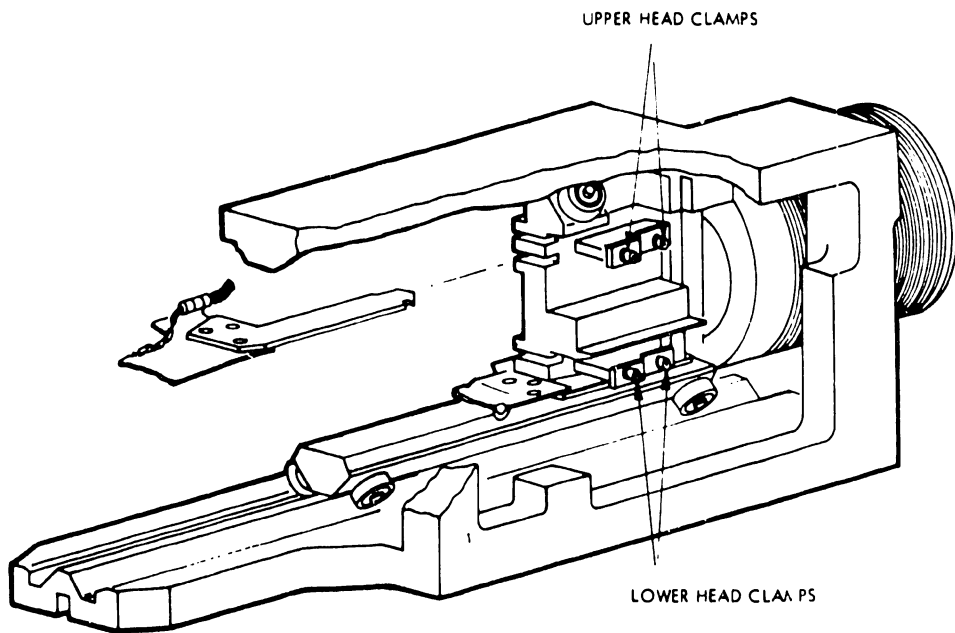

FIGURE 3-11 HEAD CLAMP LOCATIONS
- a) Loosen the appropriate head clamp (Figure 3-11).